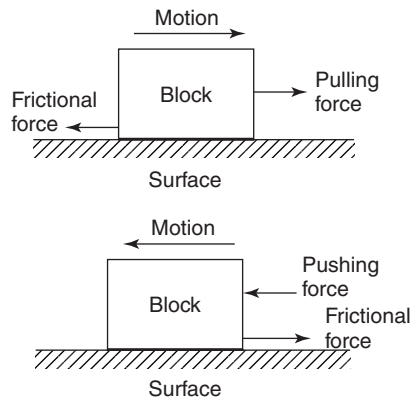

Figure 15.1
- The direction of the frictional force is always opposite to the direction of motion. Thus the frictional force opposes motion, as shown in Figure 15.1.